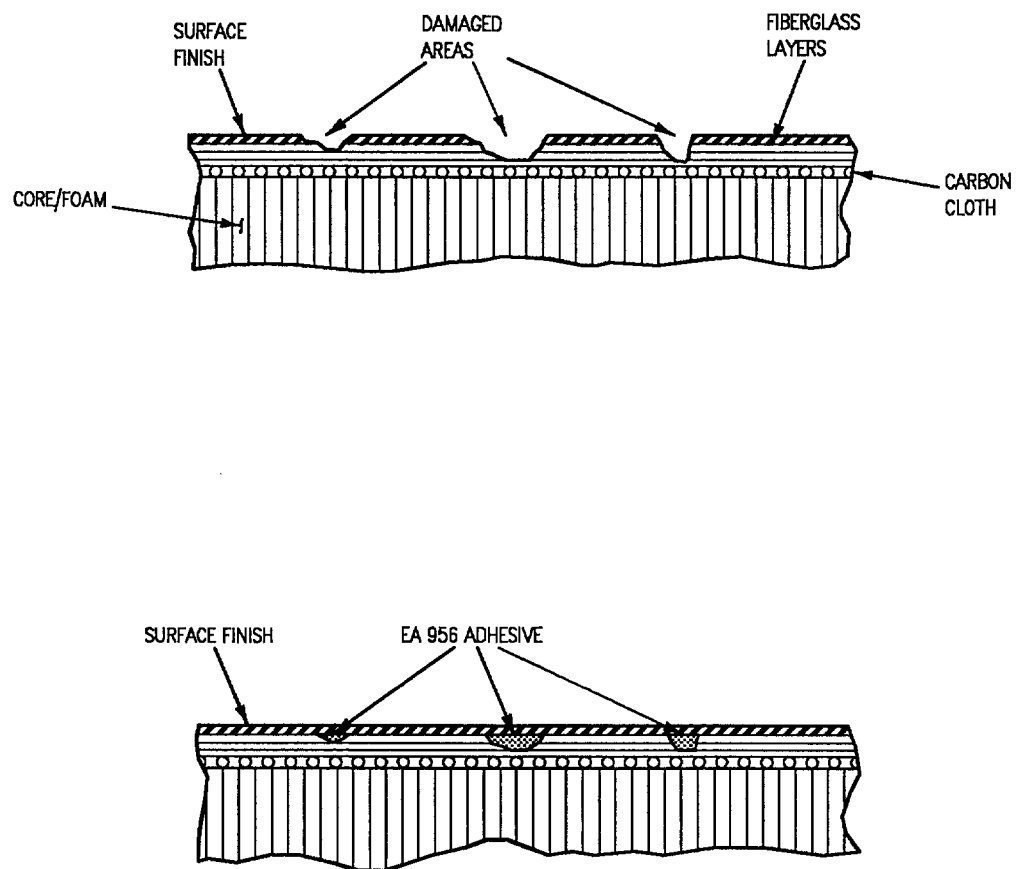

Figure 1. Class II Damage Repair
3. **CLASS II DAMAGE REPAIR.** See figure 1.